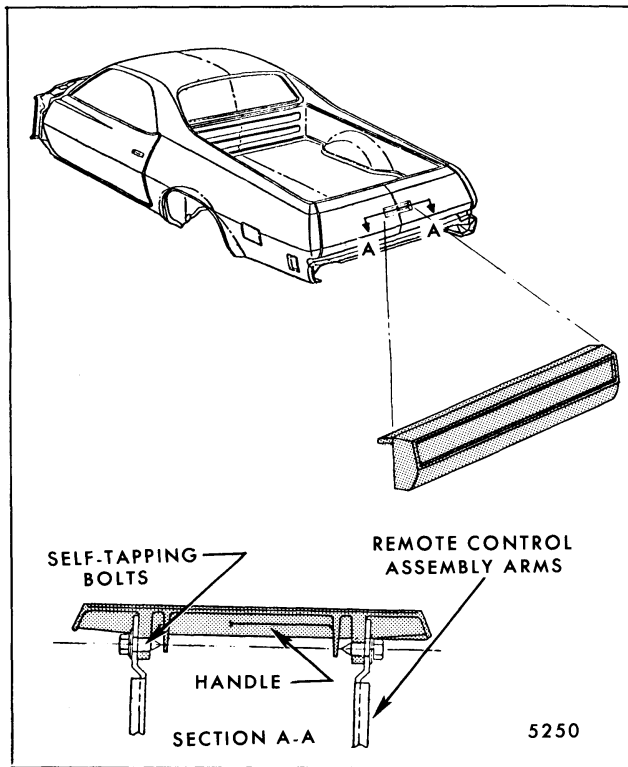

Fig. 7-78 - Tail Gate Outside Handle
3. Remove two self-tapping bolts securing outside pull handle to lock remote control assembly and remove handle (Fig. 7-78).